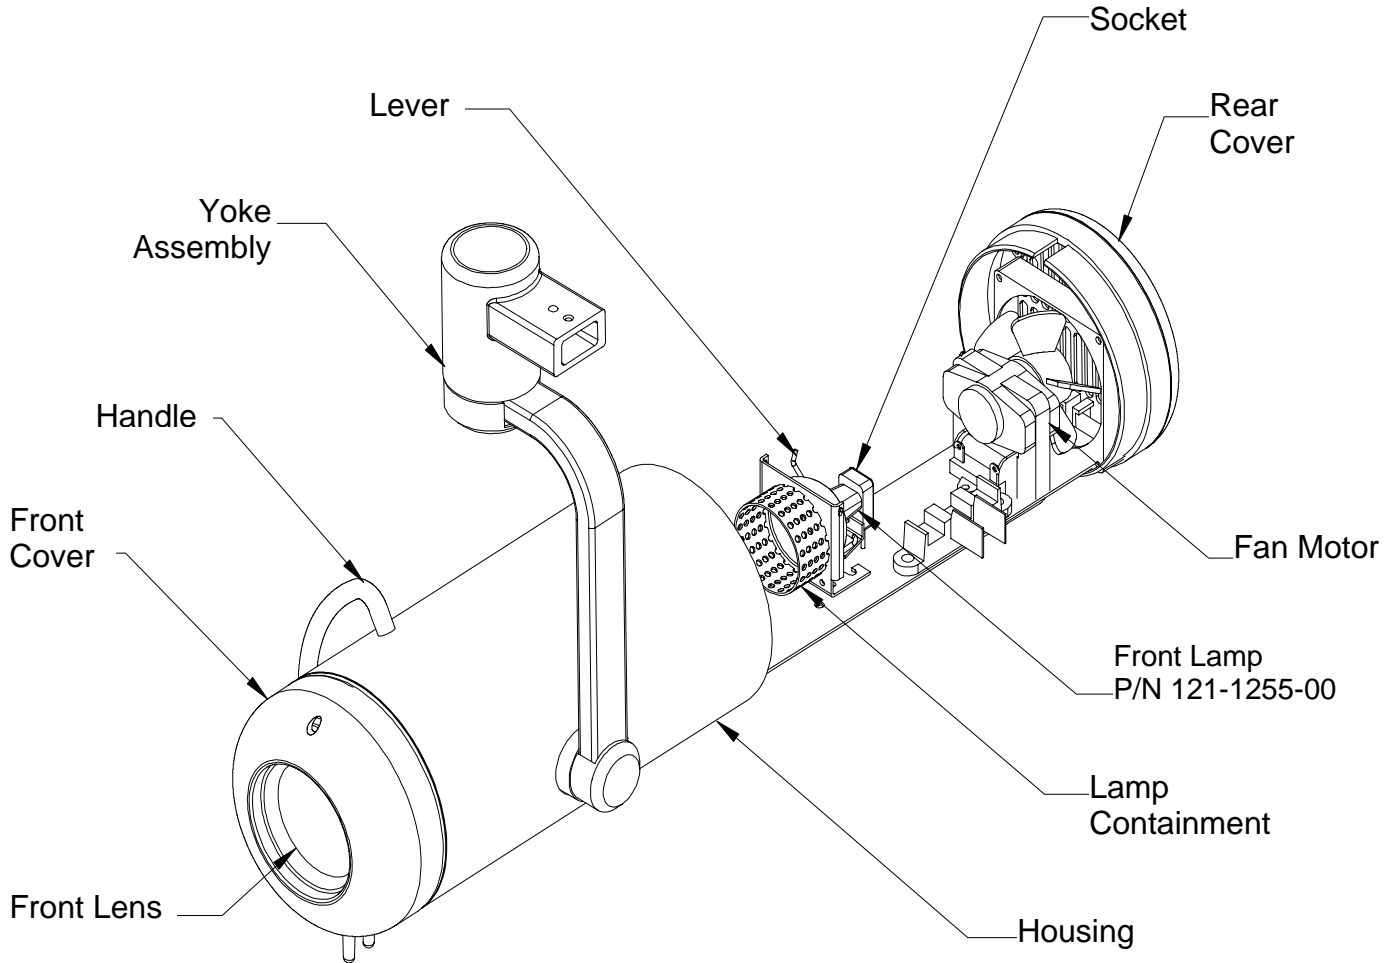

FIGURE 35: VSSI Spot Light Lamp Replacement
- (Refer to figure 35 for the VSSI Spot Light.) Facing the back of the light, lower the housing and keep it in a horizontal position. Using a small Phillips screwdriver, loosen the screw located on the rear grille as shown. The screw cannot be removed from the grille once it is loosened; however the grill can now be separated from the housing. Separate the rear grille and housing sections by firmly grasping the grille with one hand while bracing the housing with the other hand. Carefully pull the rear grille toward you until the sections begin to separate. Continue to slowly pull the rear grille until the sliding platform slides out exposing the bulb(s). The front bulb will not be completely exposed, but there is sufficient space to remove the bulb.